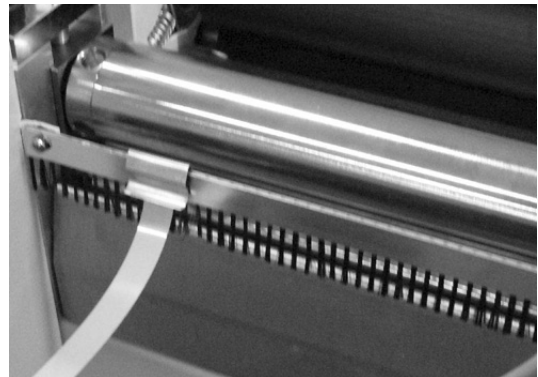

Figure 14
**NOTE:** Straps should not be placed where they will interfere with the conveyor belts or the weighted out-feed tires, (see Figure 14).
4. Figure 14 shows strap and clip in place.